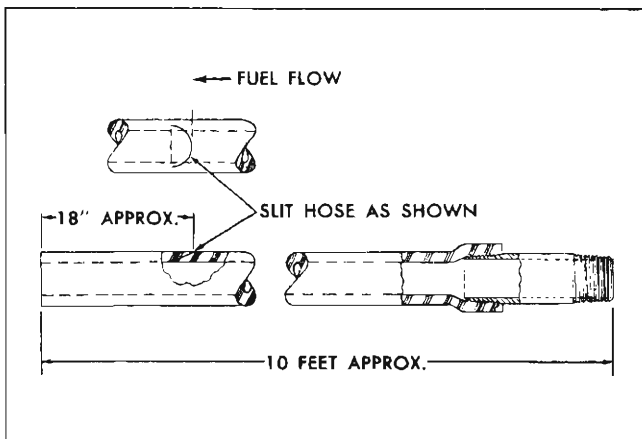

Fig. 4—Siphon Construction
1. Obtain approximately 10 feet of 3/8" I.D. hose and cut a flat-type slit 18" from one end. Make this cut on the hose in the direction toward the shorter end (See Figure 4).